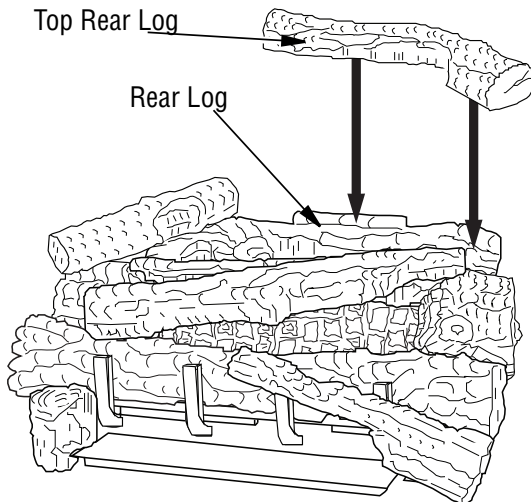

Figure 48 - Installing Top Rear Log
12. Place the top rear log (18" D-071, 24" & 30" D-045) onto the rear log as shown. The rear log has a projection that will fit into the recess area on the bottom of the top rear log (see **Figure 48**).